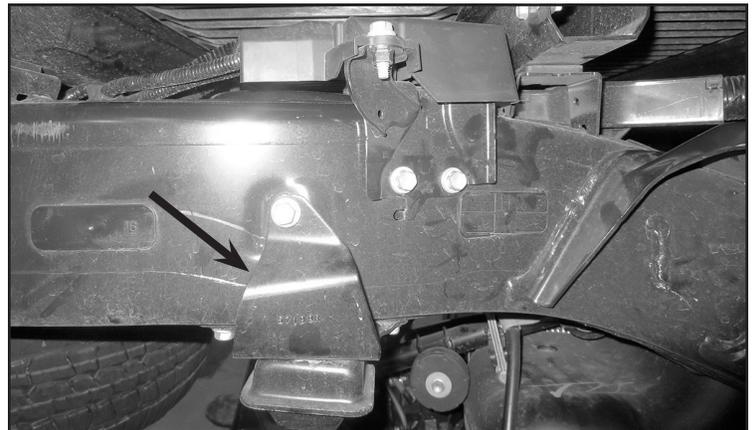

FIGURE 19 - STEP 22
- Remove the factory rear bumpstops from the frame. Save hardware. **SEE FIGURE 19**